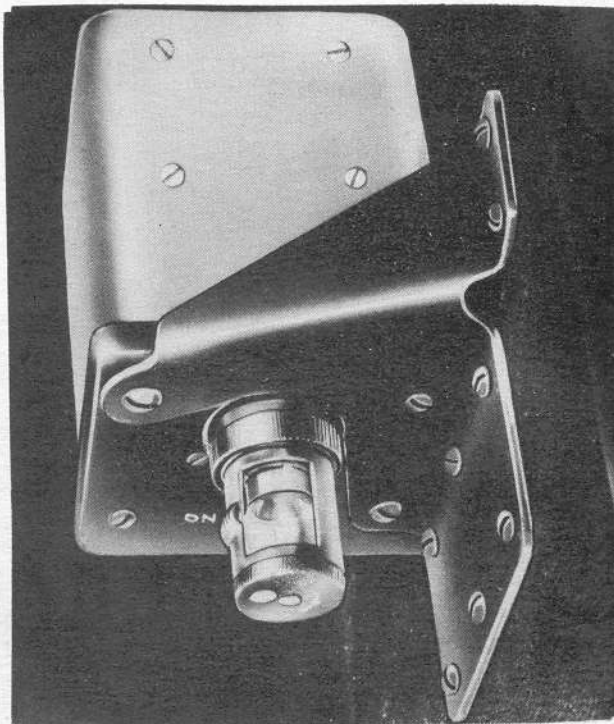

Figure 24—Map Reading Light, Pilots' Compartment
c. AN EXTENSION LIGHT (figure 24) is mounted on the bulkhead just aft of pilots' compartment. On first AT-11 airplanes, the light is mounted on the threshold of the door in the bulkhead. On Later AT-11's and SNB-1's which have generator control panel mounted on the threshold, the light is mounted on the bulkhead directly behind copilot's seat. The light has a reel-type extension and may be used in cockpit for map reading and other purposes.